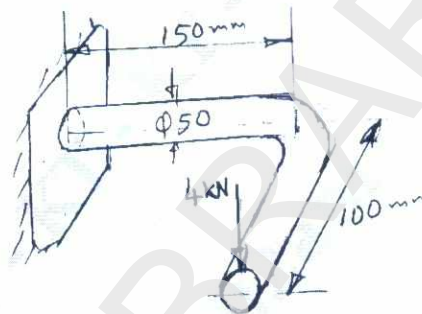

Fig. Q1 (c)
c. A machine member made of a steel bar of 50 mm dia. is as shown in Fig. Q1 (c). It is subjected to a vertical load of 4 kN as shown. Indicate the critical point and determine principal stresses at the critical point. (12 Marks)